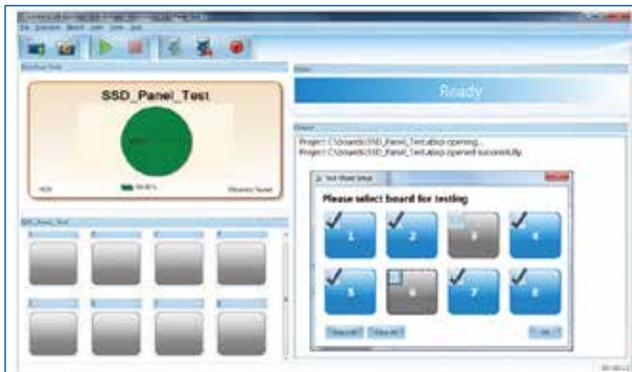
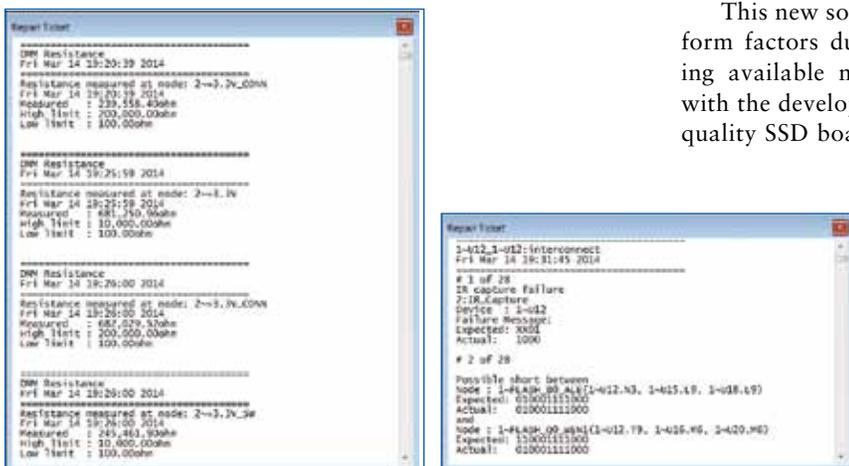

FIGURE 5. Production SSD test interface.
FIGURE 6. Failure ticket showing easy-to-read failure messages for operators.
- Generation of the manufacturing test sequence (FIGURE 5), which includes data logging of board serial number, pass/fail information and failure details (FIGURE 6).